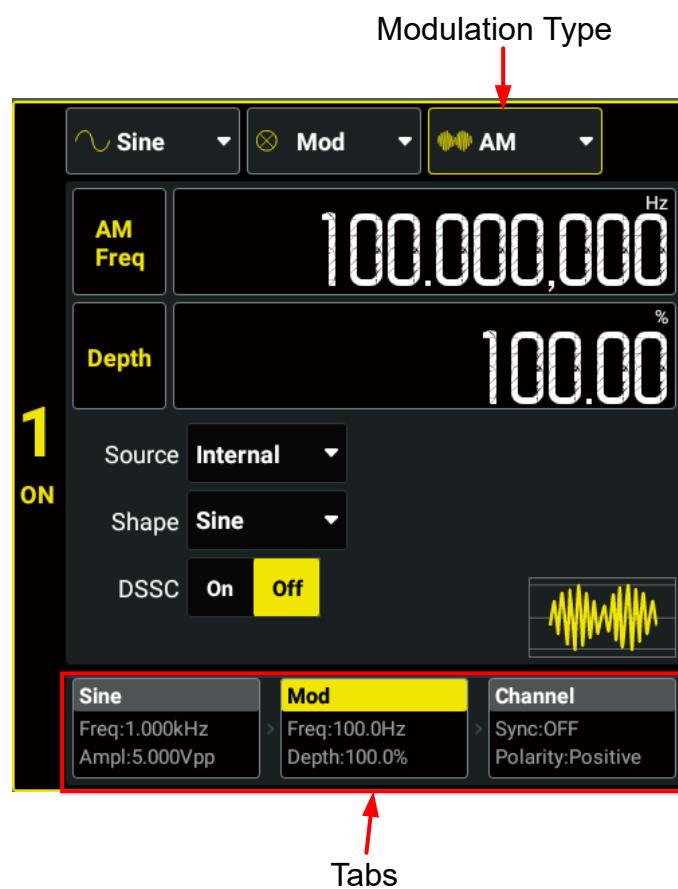

Figure 6.1 Modulation Setting Interface
"Interface" (*Figure 6.1*), click or tap the "Modulation Type" drop-down button to select "AM" and set its parameters.
In Frequency Modulation (FM), a modulated waveform consists of a carrier waveform and a modulating waveform. The frequency of the carrier waveform is varied by the instantaneous voltage of the modulating waveform. In the "Modulation Setting Interface" (Figure 6.1), click or tap the "Modulation Type" drop-down button to select "FM" and set its parameters.
6.3 Phase Modulation (PM)
In Phase Modulation (PM), a modulated waveform consists of a carrier waveform and a modulating waveform. The phase of the carrier waveform is varied by the instantaneous voltage of the modulating waveform. In the "Modulation Setting Interface" (Figure 6.1), click or tap the "Modulation Type" drop-down button to select "PM" and set its parameters.
With Amplitude Shift Keying (ASK), you can configure the instrument to "shift" its output amplitude between two preset values (called the "carrier amplitude" and the "modulation amplitude"). In the "Modulation Setting Interface" (*Figure 6.1*), click or tap the "Modulation Type" drop-down button to select "ASK" and set its parameters.